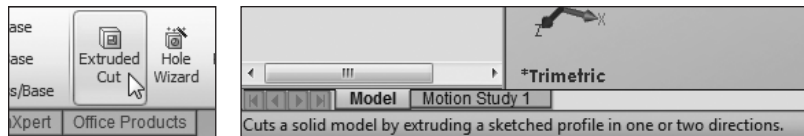

FIGURE 1.4 Additional tool information displayed in the status bar
- ▶ As you hover over a tool, the status bar will often provide you with a better description than what the tooltips will normally provide (see Figure 1.4). When you become familiar with the icons for the various tools in SolidWorks, you will require this information less often.